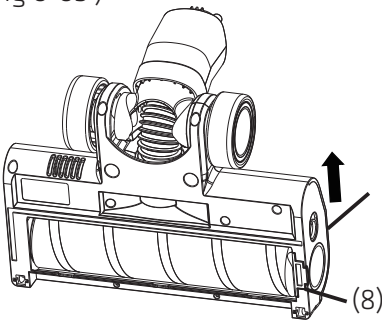
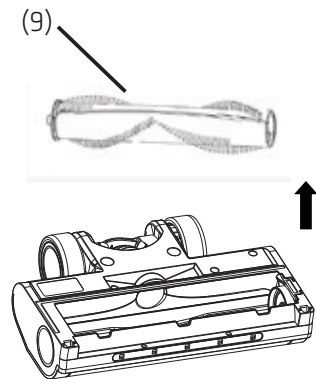

Fig. 6-6a
Fig. 6-6b
6) If there is hair in the floor brush, push the release button (8) in the side of floor brush, and then press the roll brush release tab (7) as shown below to open the roll brush cover, and then remove the roll brush (9). (see Fig 6-6a / see Fig 6-6b)